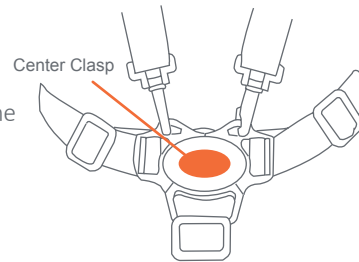

Fig. 11
- 11) • Push Button on Center Clasp, the two Harness Buckles will pop free (Fig. 11).